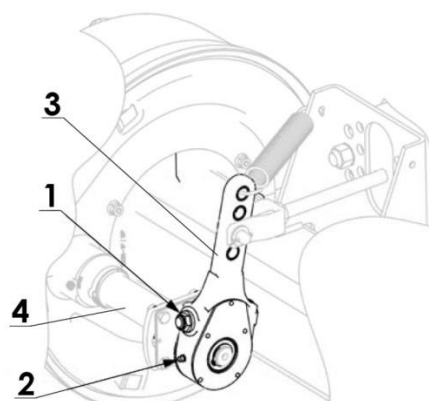

Figure 6.6. Brakes regulation
Brake adjustment involves changing the position of expander arm (3) (fig. 6.6) with respect to the expander shaft (4). To do so, turn the adjusting screw (1) until you hear two clicks in the adjusting mechanism.